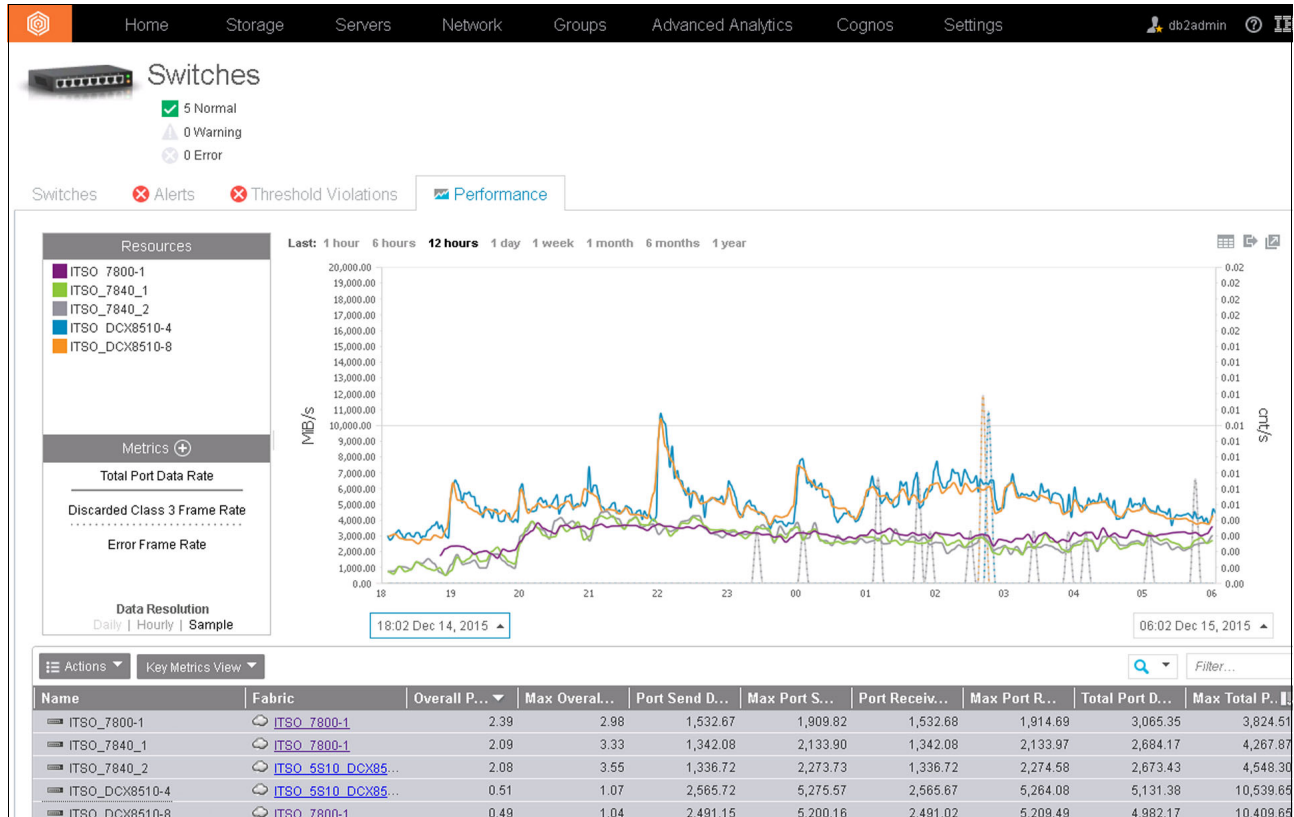

Figure 6-50 Performance view
2. In the Switches view, click the Performance tab. The Performance view is displayed as shown in Figure 6-50.